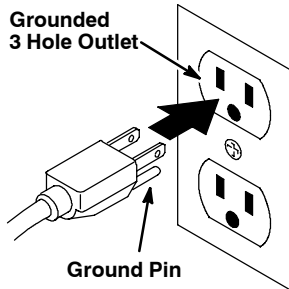

FIG. 3
1. Plug power supply cord to a grounded wall outlet (Figure 3).